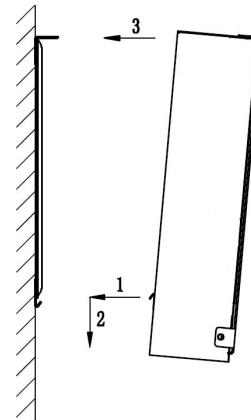

Figure 5
Step 5: Hang the appliance on the hooks at the bottom of the bracket and push the top of the appliance into the mounting bracket. Now fix the appliance to the mounting bracket by refitting the two M4×8 screws which were removed in step 1(Figure 5).